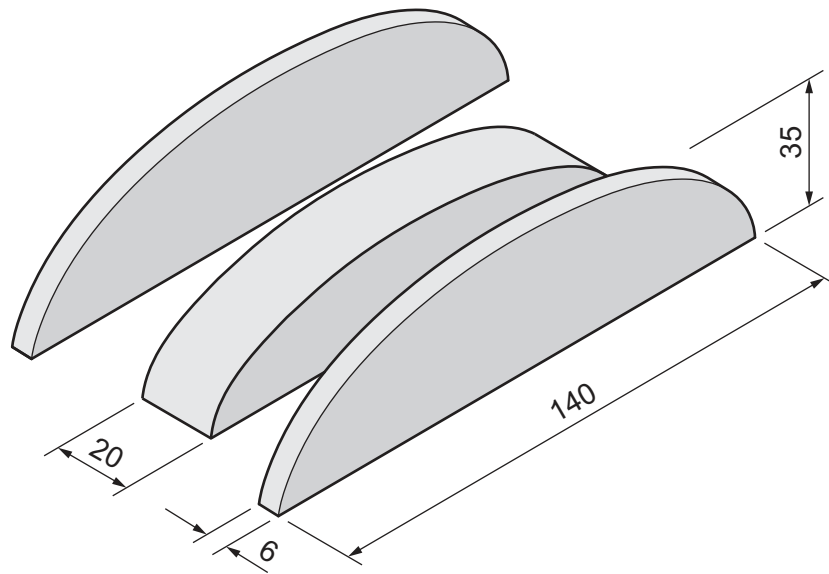

Fig. 12.3
- (e) Fig. 12.3 shows an exploded view of three pieces of MDF that will be glued together to make the neck of the holder.